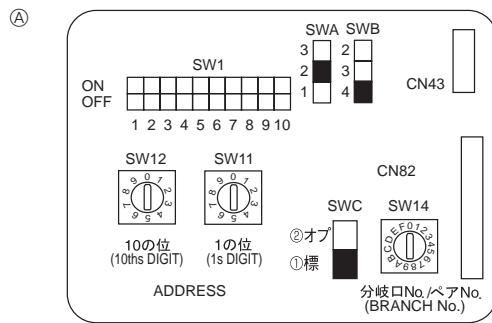

Fig. 4-4
4.5. Setting addresses (Fig. 4-4)
4.6. Switch setting for high ceiling or at the time of changing the number of air outlets (Fig. 4-4)
4.7. Sensing room temperature with the built-in sensor in a remote controller (Fig. 4-4)